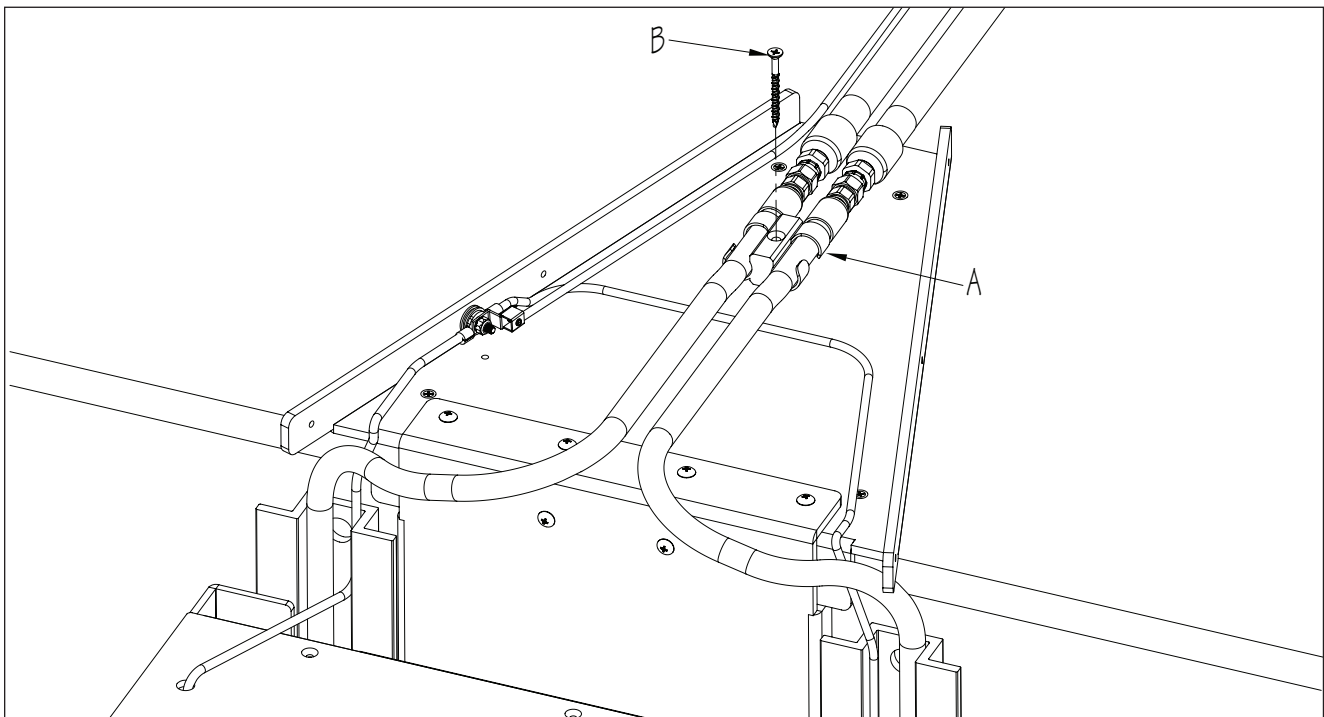

Fig. 23
4. Route the hoses into the Hose Clip (A) and secure the clip to one of the center holes in the Deck Plate using a Masonry Screw (B) (Fig. 23).